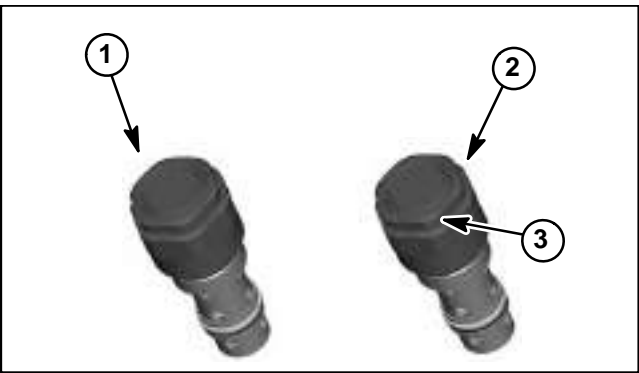

Figure 81
19.Remove forward and reverse relief valve cartridges from center case noting relief cartridge location for assembly purposes. The reverse relief valve cartridges can be identified by the groove in the hex head (Fig. 81).